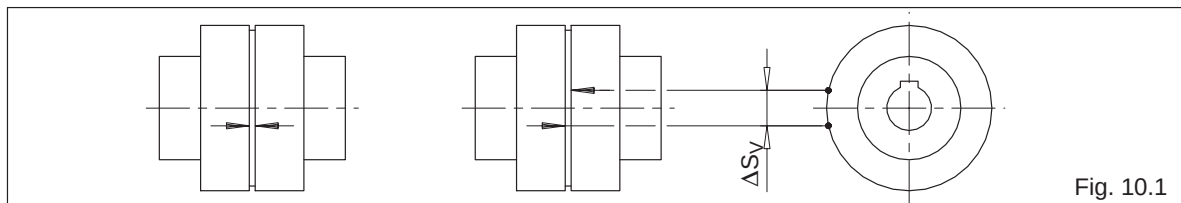

Fig. 10.1
If an increased coupling backlash does not impair the operation of the coupling, the flexible elements (12) can continue to be used up to a specified wear limit before being replaced. To assess wear, the permitted circumferential backlash, converted to the chord dimension ΔS_V on the outer coupling diameter, is shown in table 10.1a. and table 10.1b. To obtain the dimension ΔS_V , one coupling part is rotated without torque as far as the stop and a mark applied to a coupling part (see Fig. 10.1). If the coupling part is rotated in the opposite direction of rotation as far as the stop, the marks move apart. The distance between the marks is the chord dimension ΔS_V . If the dimension ΔS_V exceeds the value in table 10.1a or table 10.1b, the flexible elements (12) must be replaced.